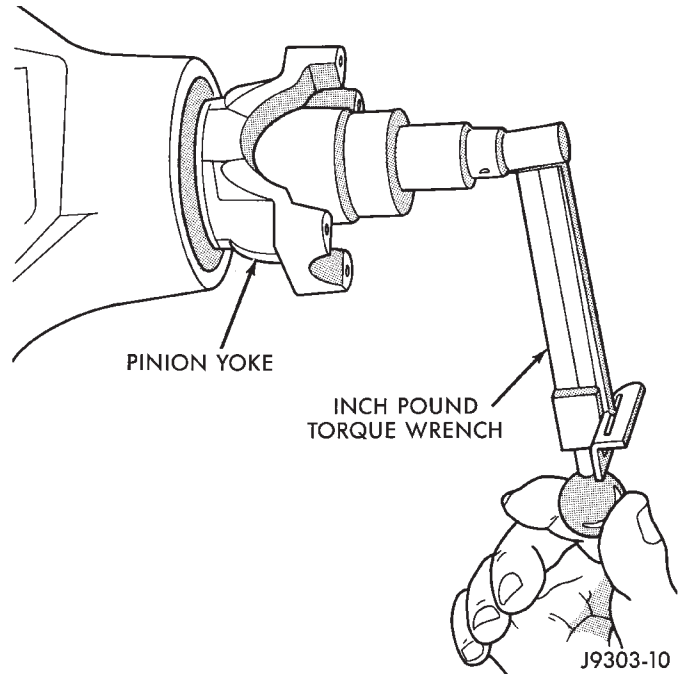

Fig. 35 Check Pinion Gear Rotation Torque
(11) Check bearing preload torque with an inch pound torque wrench (Fig. 35). The torque necessary to rotate the pinion gear should be:
(12) If rotating torque is above the desired amount, remove the pinion yoke and increase the preload shim pack thickness. Increasing the shim pack thickness 0.025 mm (0.001 in.) will decrease the rotating torque approximately 0.9 N·m (8 in. lbs.).
(13) Tighten pinion shaft nut in 6.8 N·m (5 ft. lbs.) increments until the maximum tightening or desired rotating torque is reached.
(14) If the maximum tightening torque is reached prior to achieving the desired tightening torque, remove the pinion yoke and decrease the thickness of the preload shim pack. Decreasing the shim pack thickness 0.025 mm (0.001 in.) will increase the rotating torque approximately 0.9 N·m (8 in. lbs.).